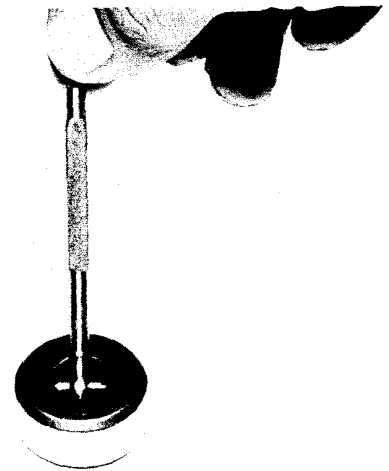

Fig. 4-10, (N10414). Measuring cam roller I.D.
7. Inspect cam rollers. Set small bore gauge (such as Starrett No. 829-D) 0.0002 inch [0.005 mm] above worn replacement limit. Use as a "No Go" gauge in bore to check wear beyond replacement limits. Check for out-of-round holes. Fig. 4-10.